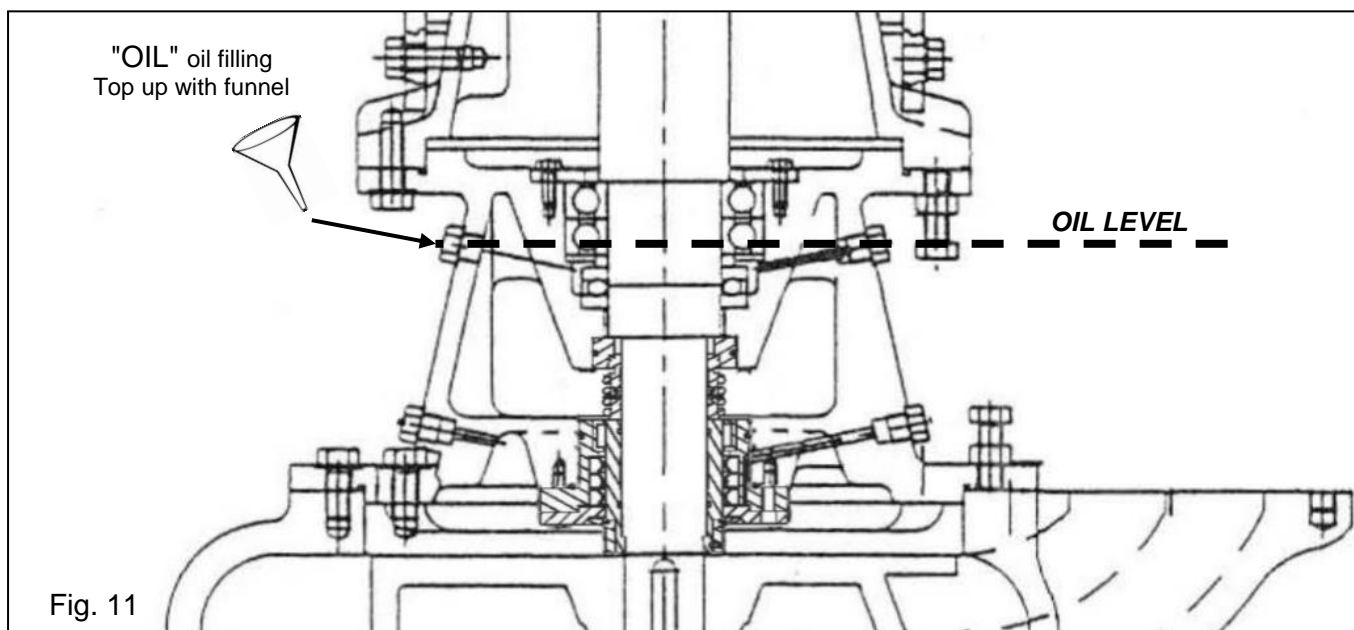

Fig. 11
- 5) Check the level and the deterioration of the oil every 8 hours of operation by removing the plug labelled "OIL" (Fig. 11). For a total oil change or topping up, the following steps have to be taken:
c) Top up until completely full using a funnel on side up to the indicated "OIL LEVEL" (Fig. 11), approx 5 Kg of oil having the characteristics as in the table following.